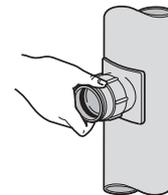

Fig.25a Test fitting boss
Step 4 – Insert boss into hole. Ensure keyway is last piece to enter hole (Fig.25a)